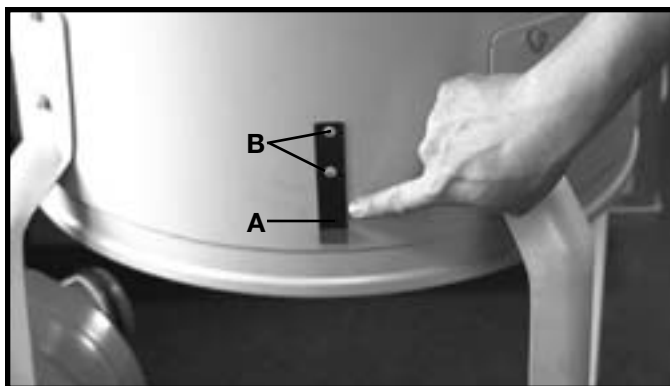

Fig. 14A
11. Attach the lower dust bag retaining clip (A) Fig. 14A, to the dust collector drum. Align the two holes (B) in the retaining clip (A) Fig. 14A, with the two holes in the drum. Insert a 1/4-20x5/8" hex head screw through the holes in the retaining clip and the holes in the drum. Place a 1/4" flat washer onto the screws, and thread 1/4-20 hex nut on the screws and tighten securely. Repeat this process for the three remaining sides of the drum.